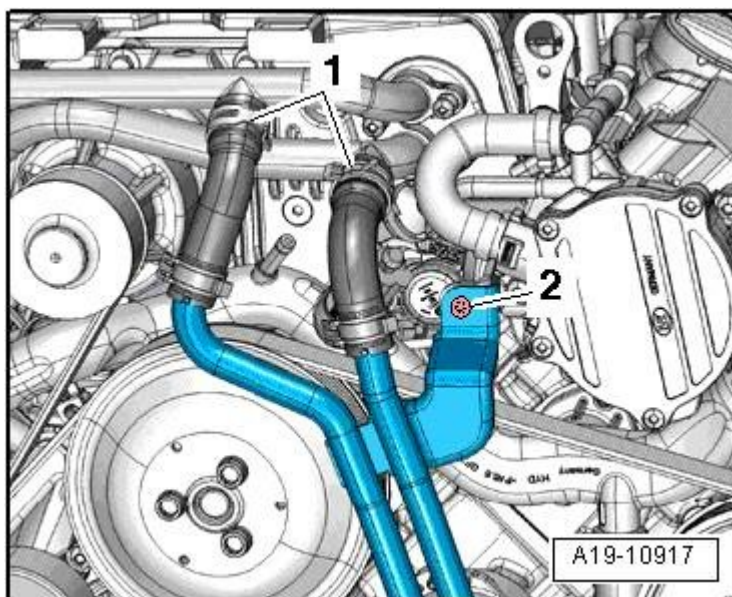

Figure 8. Bolt to be removed (2)
7. Remove the bolt as shown in the image at right (Figure 8, 2)